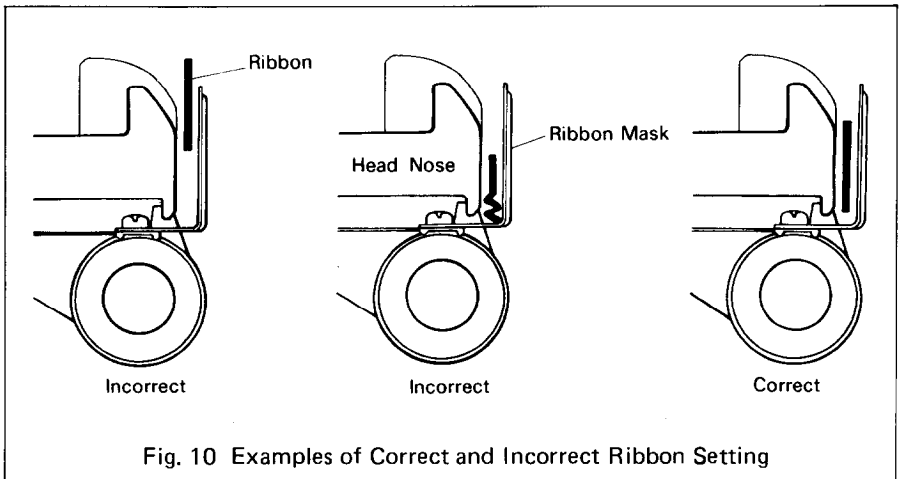

Fig. 10 Examples of Correct and Incorrect Ribbon Setting
1. Incorrect setting of the ribbon may cause it to come off. (See Fig. 10.)